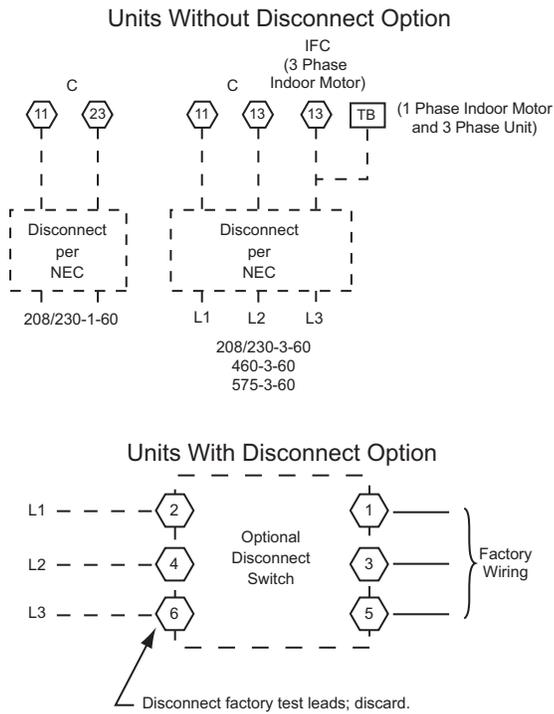

Fig. 23 — Power Wiring Connections
The factory-installed optional disconnect switch is located in a weatherproof enclosure located under the main control box. The manual switch handle is accessible through an opening in the access panel. Discard the factory test leads (see Fig. 23).
All field wiring must comply with NEC and all local codes. Size wire based on MCA (Minimum Circuit Amps) on the unit informative plate. See Fig. 23 and the unit label diagram for power wiring connections to the unit power terminal blocks and equipment ground. Maximum wire size is #2ga AWG (copper only) per pole.
2. Install power lines to terminal connections as shown in Fig. 23 on page 16.